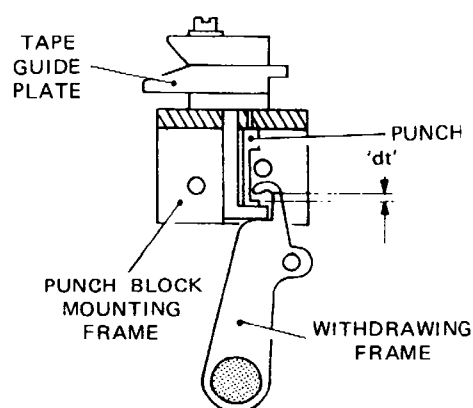

Fig. 4.129 PUNCH BLOCK (LEFT-HAND VIEW)
- 141.2 Check that the gap between the punches and the withdrawing frame (dimension 'dt' of Fig. 4.129) is not greater than 0.003 inch.
- 141.1 Set the machine to the rest condition and thus the feed cam lever in the lower position, check that the punches are in their lowest position, and check that the flats of the punches face the withdrawing frame as shown in Fig. 4.129.